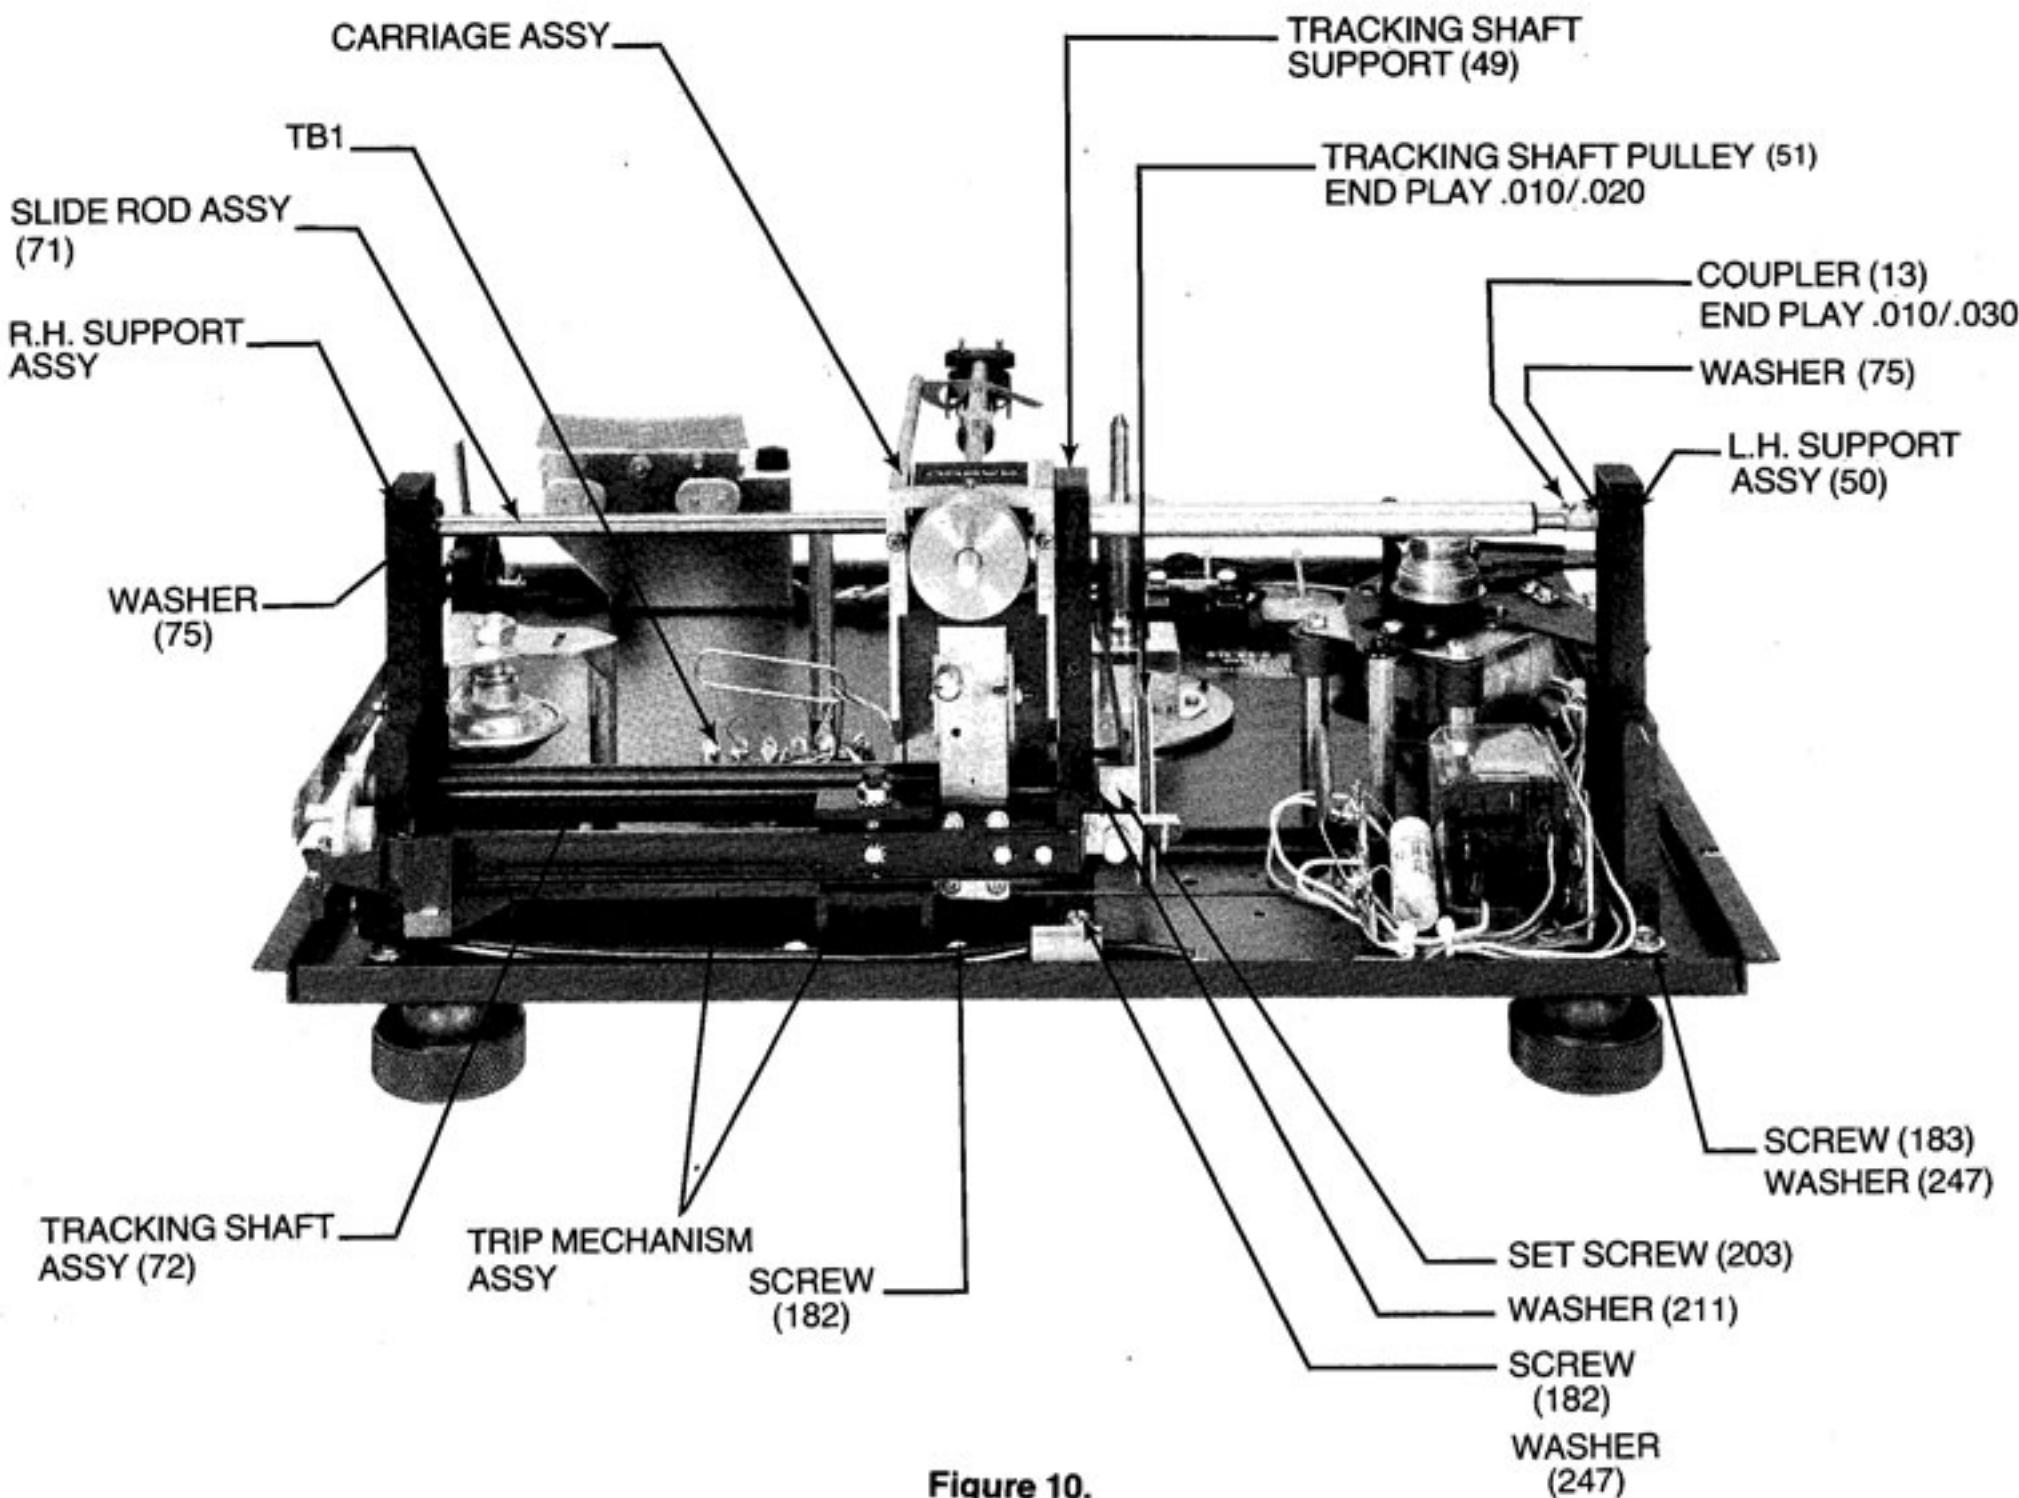

Figure 10.
D. Method of Removal (Refer to Figure 10)